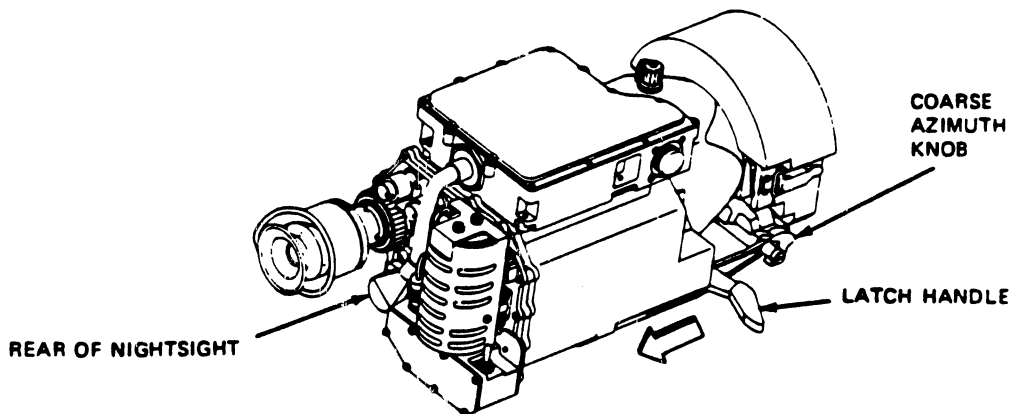

Fig 2-14. Night sight.
Step 1. Place the coarse azimuth knob in position No. 1 (forward position) (fig 2-14).
Step 2. Move the latch handle toward the rear of the night sight (in direction of arrow) (fig 2-14).